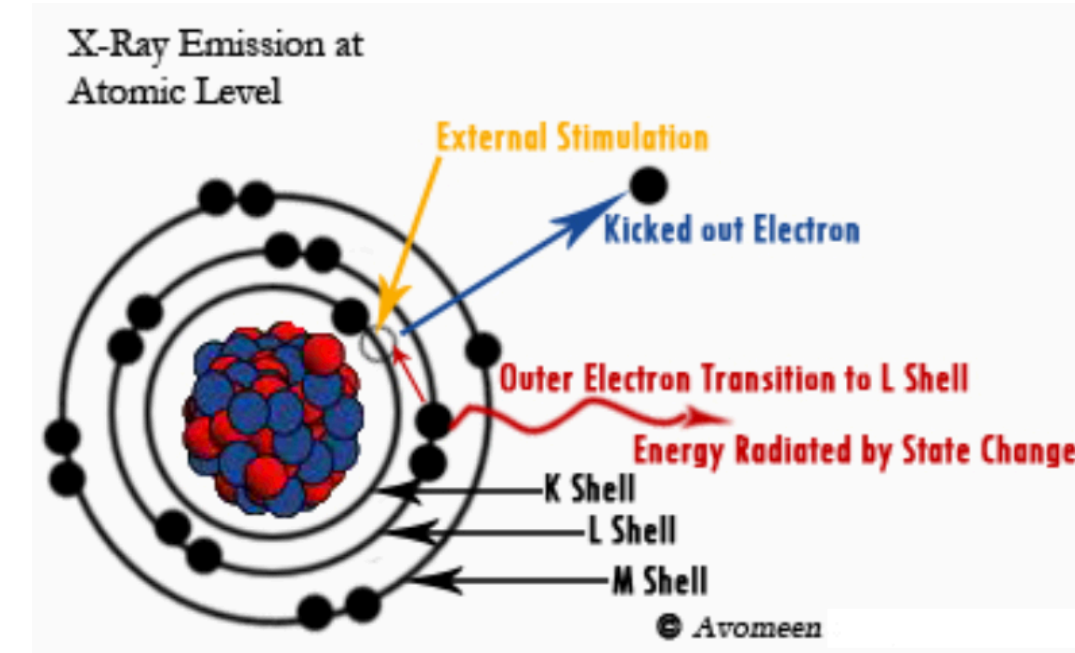

Figure 2: Schematic of PIXE process [4]
- **PIXE**, or proton-induced X-ray emission, is also nuclear reaction analysis using a high energy ion beam. As seen in Figure 2, it sends protons through the test material, and they lose energy by exciting electrons in the material, so the inner electrons are ejected, and the others move in to fill the vacancies, and are accompanied by the emission of X-rays with a characteristic energy that identifies heavier elements in the material [3]